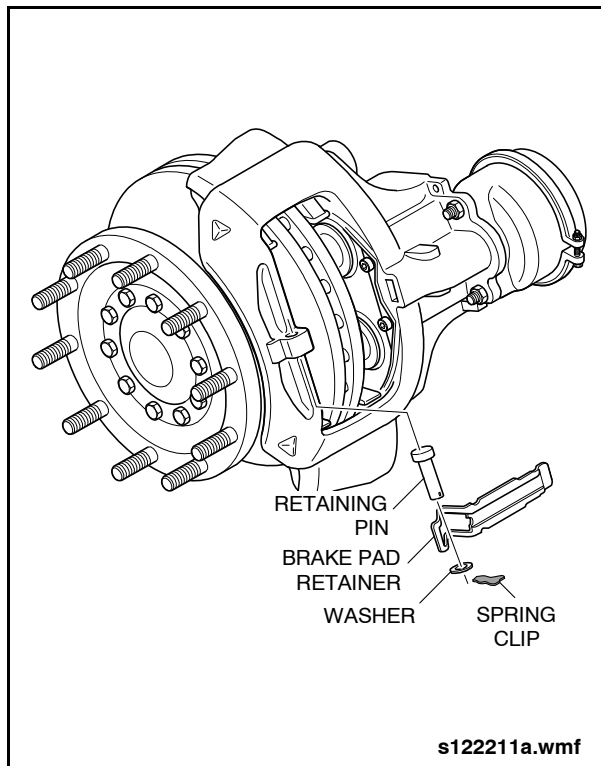

Fig. 4: Brake Pad Retainer Installation
- a. Insert the inboard end of the pad retainer into the groove and apply sufficient downward pressure to allow insertion of the retaining pin. See Fig. 4: Brake Pad Retainer Installation on page 5.